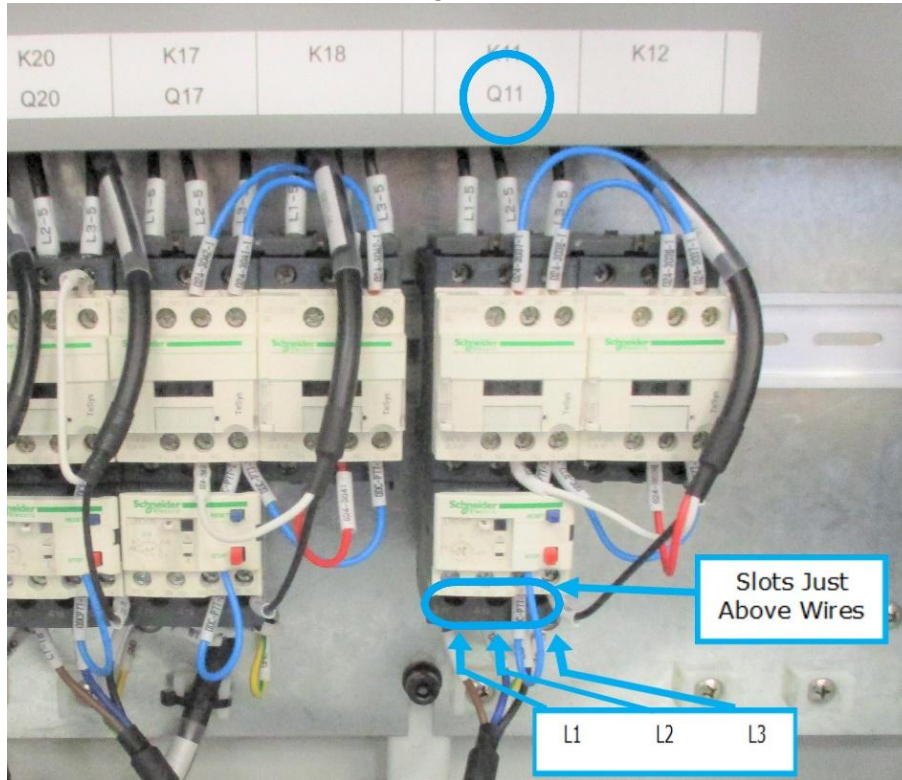

Figure 5.1.8.1a
2. Trace electric wires from auger motor needing replacement. Auger motor connects to junction Q11 in the electrical cabinet as shown in figure 5.1.8.1a.